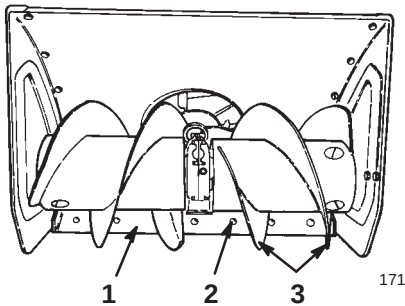

Figure 28
6. Support the *auger blades* so that they are at least 1/8 inch (3 millimeters) off the ground (Fig. 28).
8. To adjust the scraper, loosen the carriage bolts that secure the scraper to the auger housing (Fig. 28), level the scraper, and tighten the carriage bolts.